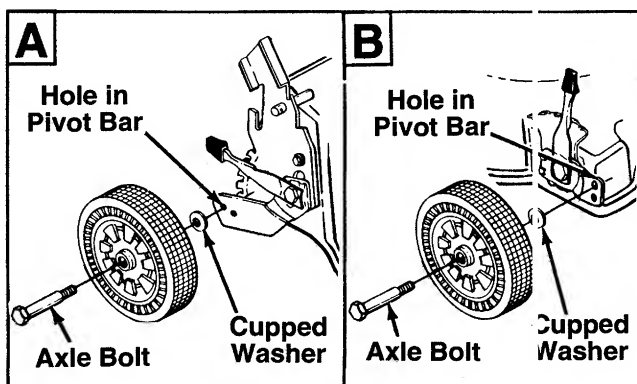

FIGURE 7.
2. Attach the wheels to the pivot bar on the height adjusters. Use the top hole in the pivot bar when assembling the front wheels; use the rear hole in the pivot bar when assembling the rear wheels. See figure 7.